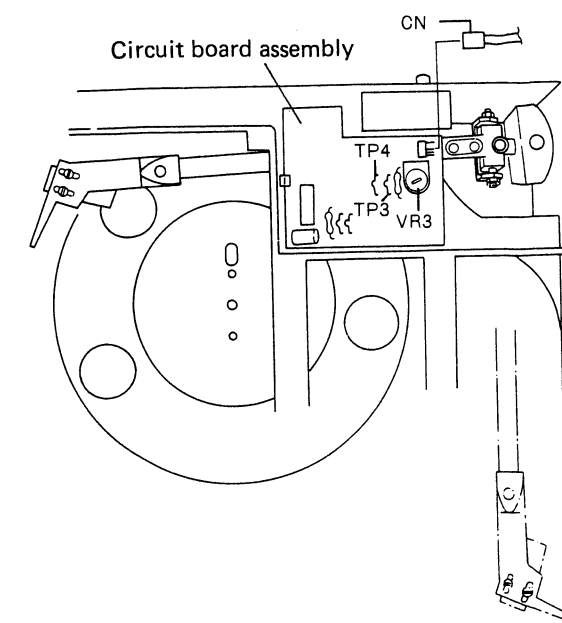
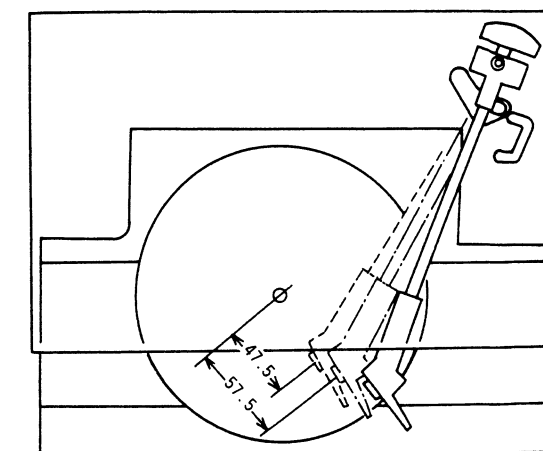

Fig. 12-3 End sensor adjustment 1
Fig. 12-4 End sensor adjustment 2
2. With the unit in playback status, turn off the power switch. Then, disconnect the connector (CN) from the circuit board assembly to make sure the mechanism motor and turntable motor does not move.
3. Connect a DC voltage meter between TP3 and TP4 (GND) as shown in Fig.12-3. Turn the power switch on, and position the stylus of the tonearm 47.5mm from the center shaft. Read the voltage from the voltage meter at this position. (Fig.12-4).